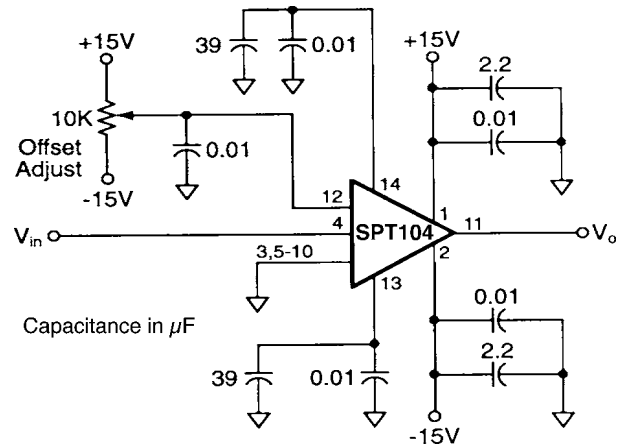

Figure 1: Basic Circuit
DC offset of the SPT104 may be adjusted by applying a DC voltage to the amplifier's offset adjust pin (12). The simplest method is shown in Figure 1. Using this method of offset adjust it is possible to vary the output offset by approximately ±400mV. This simple adjustment has no effect on the offset drift characteristics of the SPT104.